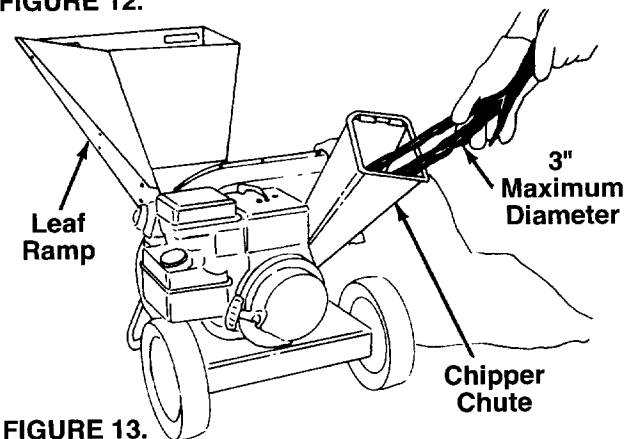

FIGURE 13.
3. Bulky material, such as stalks or heavy branches, up to 3" in diameter should be fed into the chipper chute. See figure 13.